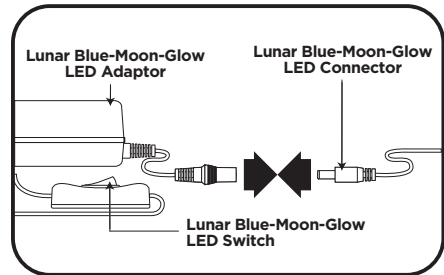

fig. B4 - Lunar Blue-Moon-Glow Connection To Adaptor
2. Attach Lunar Blue-Moon-Glow LED connector to Lunar Blue-Moon-Glow LED adaptor. (fig. B4)